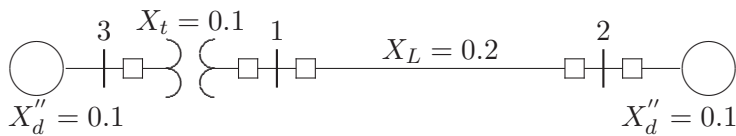

FIGURE 69
9.3. The one-line diagram of a simple power system is shown in Figure 69. Each generator is represented by an emf behind the transient reactance. All impedances are expressed in per unit on a common MVA base. All resistances and shunt capacitances are neglected. The generators are operating on no load at their rated voltage with their emfs in phase. A three-phase fault occurs at bus 1 through a fault impedance of $Z_f = j0.08$ per unit.